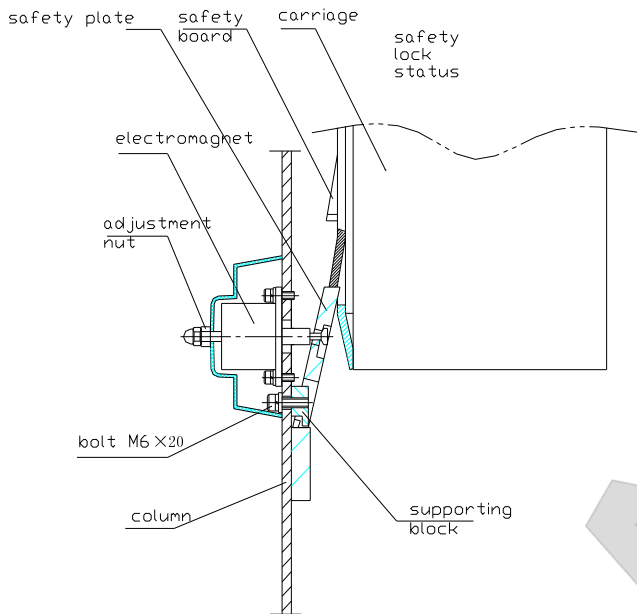
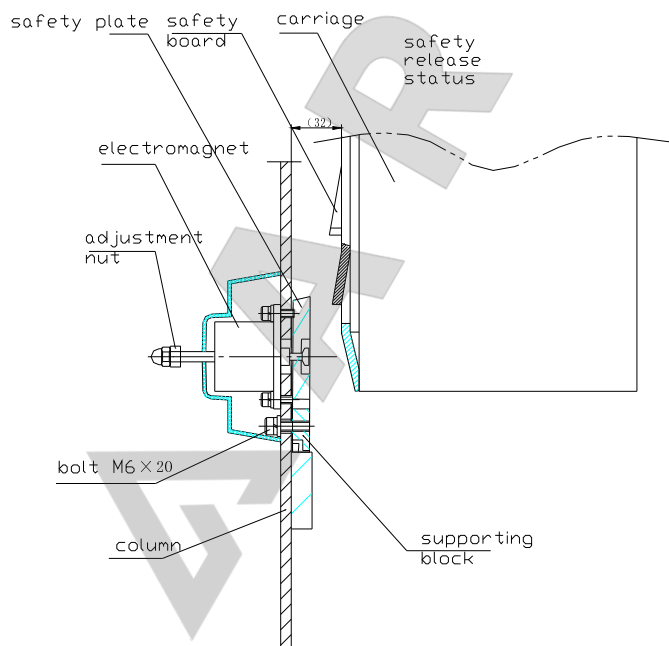

Fig. 3
Fig. 4
- **Electromagnet safety mechanism:** On each of the two columns, two safety lock devices are installed respectively. During the lifting process, the safety devices start to operate automatically and ensure reliable safety. Since two columns have electromagnet safety devices, they can provide double safeties.(see fig.3&fig.4)
the safety plate will block into the safety orifice, preventing the falling of the carriage (Fig. 3). When the electromagnet is actuated, the safety plate is released for carriage lowering (Fig. 4).